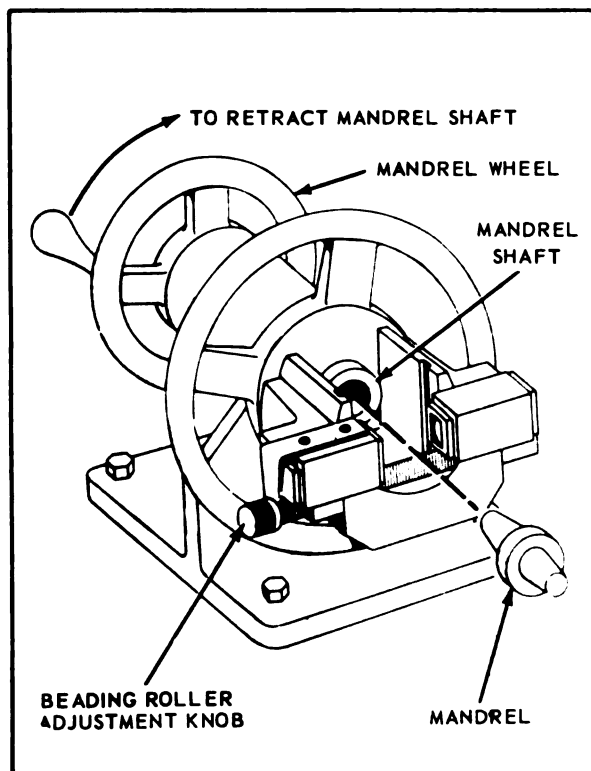

Figure 11-11. Retracting Mandrel Shaft
- b. Rotate mandrel wheel in direction shown by arrow until shaft is fully retracted as in figure 11-11.